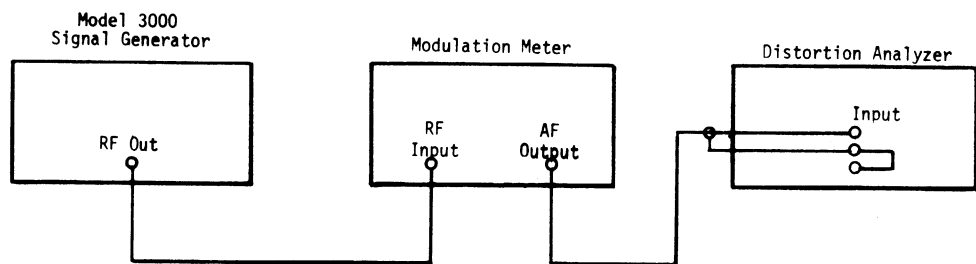

Figure 4-2. Residual AM Setup
2. Connect the equipment as shown in Figure 4-2.